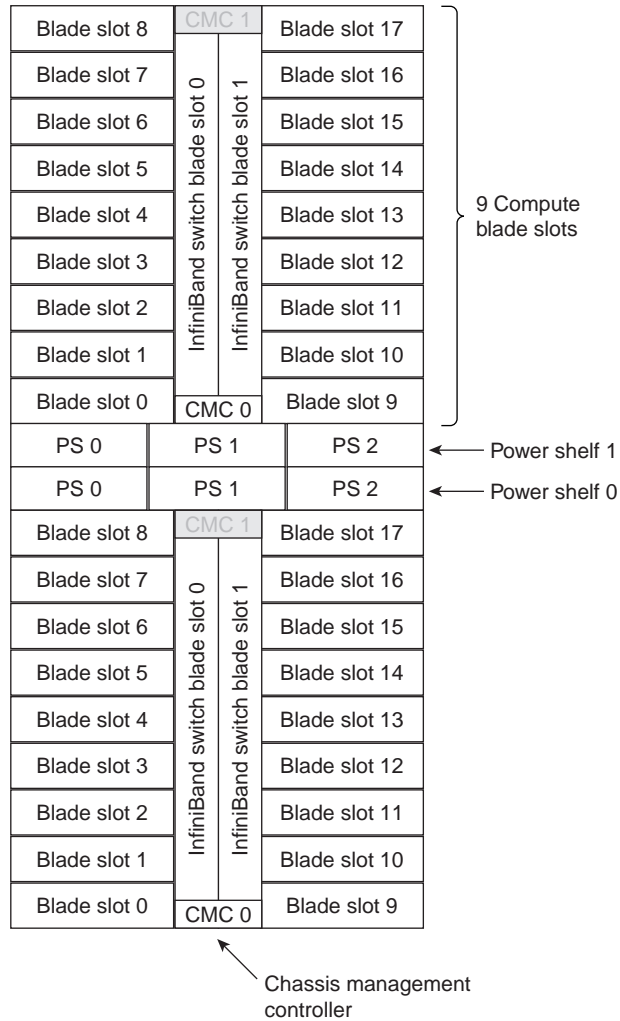

Figure 3-9 Single-node D-Rack Blade Enclosure Pair Component Front Diagram
- **Single-wide compute blade.** Holds one or two node boards and up to 16 memory DIMMs. See Figure 3-9 on page 46 for an example of blade number assignments.